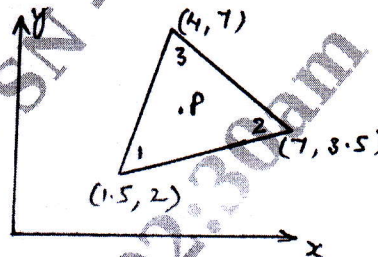

Fig. Q5 (b)
- b. For the triangular element shown in Fig. Q5 (b). Determine Jacobian matrix and also shape function at points  $P(3.85, 4.8)$  (10 Marks)